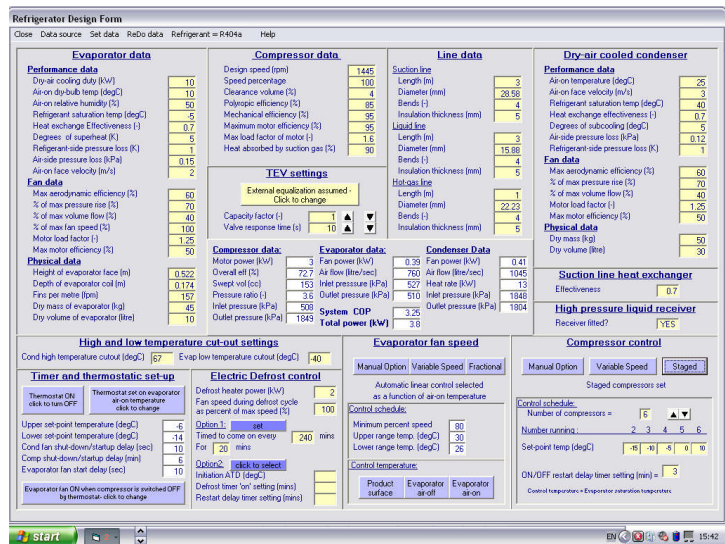
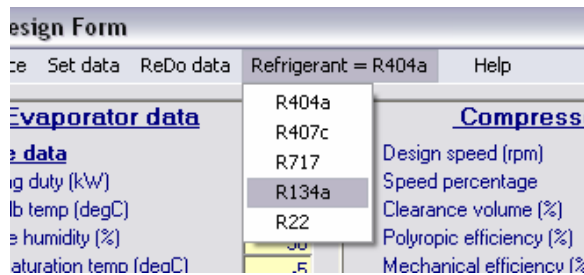
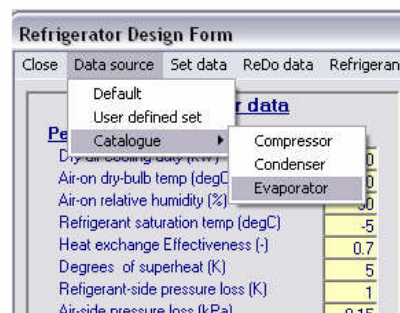

Figure 5: Refrigerator design input screen
Figure 6: Refrigerant fluid selector accessed through the toolbar
Figure 7: Showing how the catalogue input data functions are accessed through the toolbar
**Refrigerator design:** The refrigerator design screen, shown in Figure 5, allows users to specify design-point data either by default or individually or in any combinations, for the evaporator, condenser, compressor, fans and motors, thermostatic expansion valve, refrigerant pipelines and refrigerant fluid, as shown in Figure 6. If catalogue data are available for the compressor or evaporator or condenser (or for any combination of these) then special easy to follow data input screens are provided for each. These are accessed also by navigating through the toolbar, as shown in Figure 7. Figure 8 and 9 show the catalogue data entry screen for the compressor and evaporator.